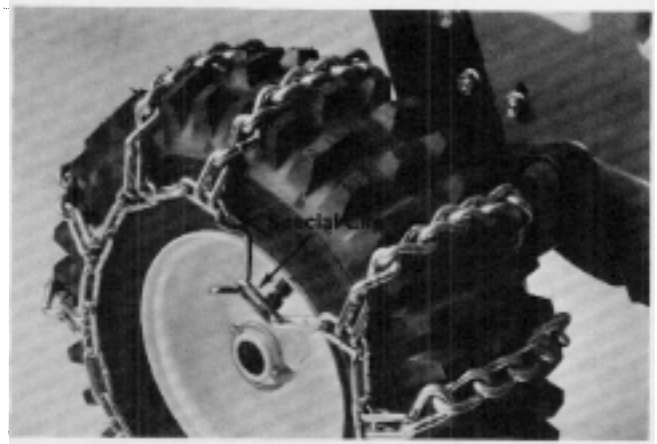

Figure 118
2. Lay the chains out front and install on the wheel tire assembly making sure that the special clip is on the outside of the wheel tire assembly. Letting air out of the tire will facilitate installation. See Figure 118.